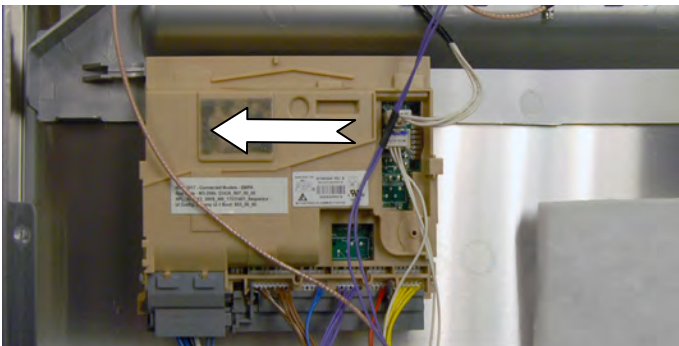

Figure 2 - Slide Control to Left
4. Slide the electronic control to the left to unhook the tabs on the back of the control from the slots in the door bracket, see Figure 2.